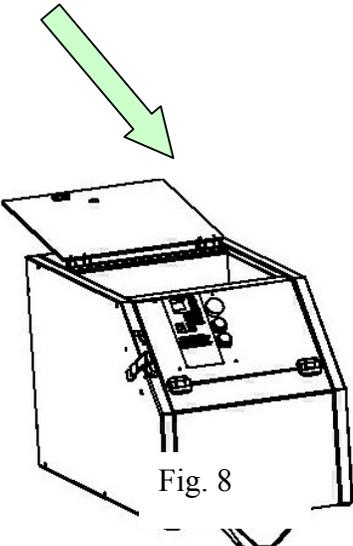

Fig. 8
2. As in Fig. 8, open the front door.